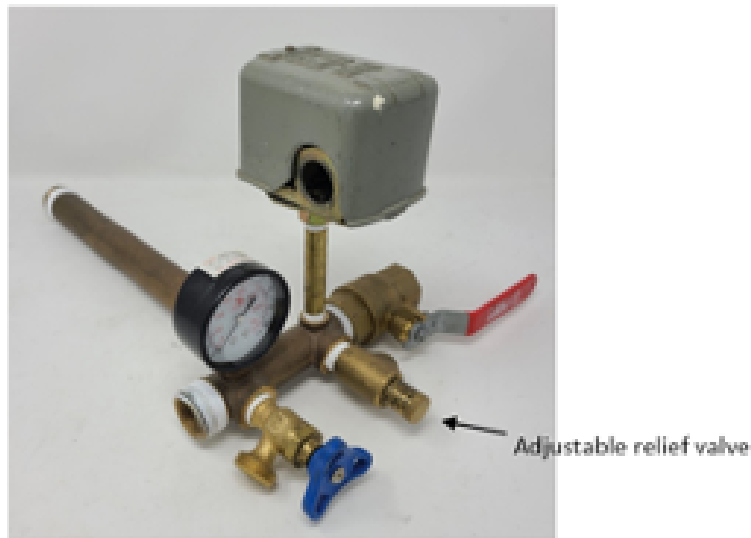

Figure 30. Tank tee
To facilitate the installation of the relief valve, as well as the pressure switch, pressure gauge, and drain valve, a manufactured tank tee (Figure 30) provides a convenient connection point. This tank tee serves as a practical and efficient solution for incorporating these components into the system.
- Figure 30. “Tank tee” by Rod Lidstone is licensed under a CC BY-SA licence.